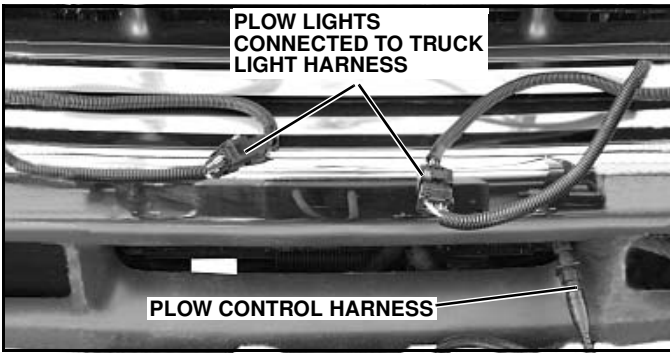

Figure 1-35
2. Plug EIS® plow light connectors into mating connectors on truck light harness. (See Figure 1-35).